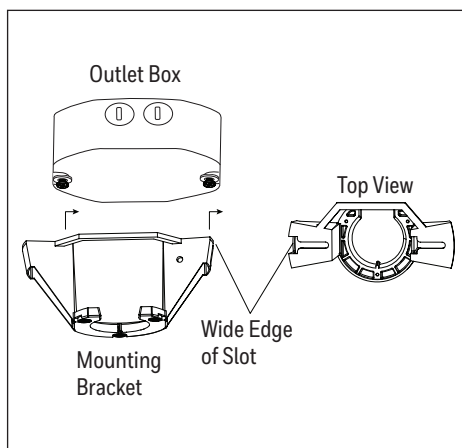

Figure 2.2
2. If necessary, preassemble the screws and washers included with the outlet box (sold separately). Then, lift the wide edge of the slots over the screw heads and slide the mounting bracket right until the screw heads are totally engaged in the slots. Tighten screws to secure the mounting bracket to outlet box (Figure 2.2).